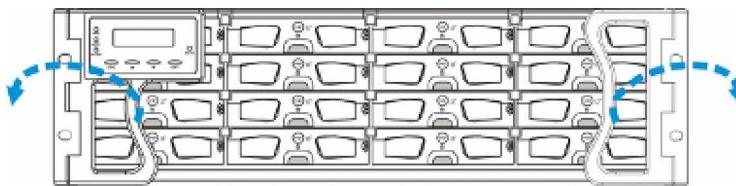

Figure 5-29: Open the Front Handles
- **Handles:** If the failed hard drive is behind either the left or right front handle, unfold the handles to access the drive trays. (See *Figure 5-29*)